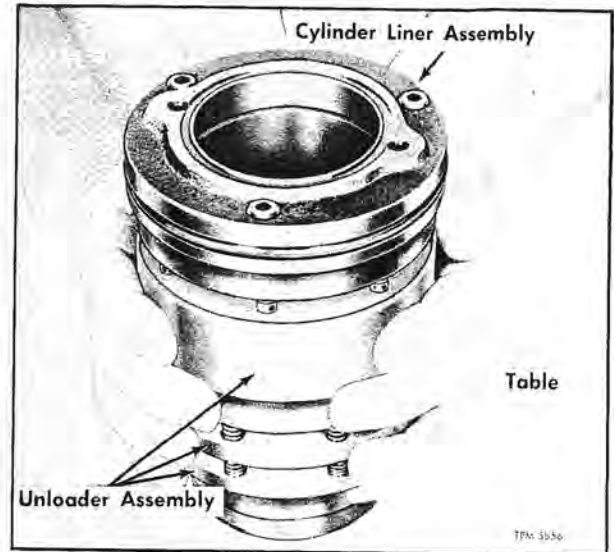

Figure 70—Method of Removing Unloader Assembly
1. To remove unloader assembly (53) and unloader actuated parts from cylinder liner, grip the unloader firmly with both hands and strike bottom of liner against a soft wood (flat) surface (fig. 70). Separate unloader from liner. Invert piston on bench, then release retaining ring (32) and slide it off liner. Lift take-up ring (49) from liner and remove lift pins (5) and pin springs (4) from holes in liner.
**NOTE:** The unloader mechanism (53) is a sub-assembly which is not to be disassembled in the field. Should the unloader become inoperative, the entire unloader assembly must be replaced.
2. To disassemble liner and suction valve assembly only, remove three screws which attach valve plate (45) to top of liner. Be cautious not to move valve plate around top of liner as valve surfaces could be damaged. Carefully invert liner and valve assembly, keeping valve against liner. Lift liner (48) from valve plate (45). Remove suction valve (34), valve springs, and rubber O-ring seal (33) from valve plate.